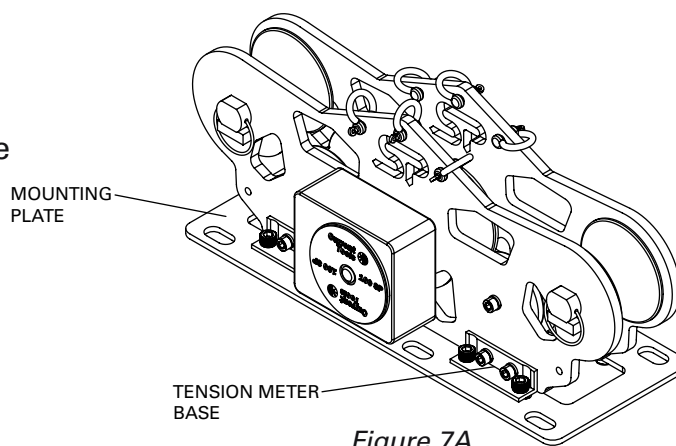

Figure 7A
2. Ensure that the mounting plate is securely fastened to the base of the Tension Meter (See Figure 7A).